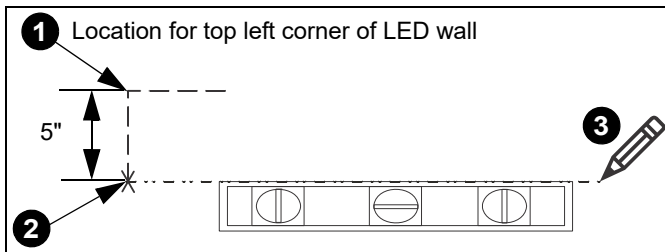
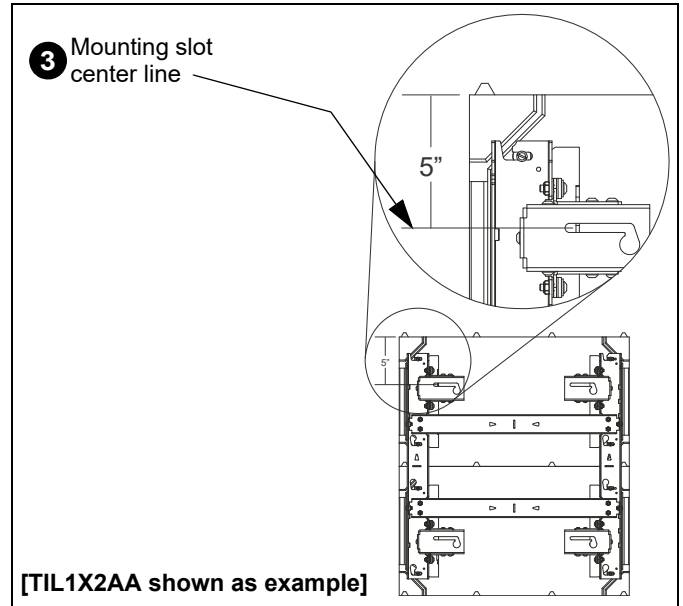

Figure 1
Figure 2
**IMPORTANT ! :** The top of the LED housing is 5" above the center line of the mounting slots. (See Figure 1)
1. Determine location for the **top left** corner of the LED wall. (See Figure 1)
2. Make a mark 5" below the planned top left corner of the LED wall. (See Figure 1)
**NOTE:** This line will indicate the center line of the mounting slots for the top mount(s) in the LED wall. (See Figure 1) and (See Figure 2)